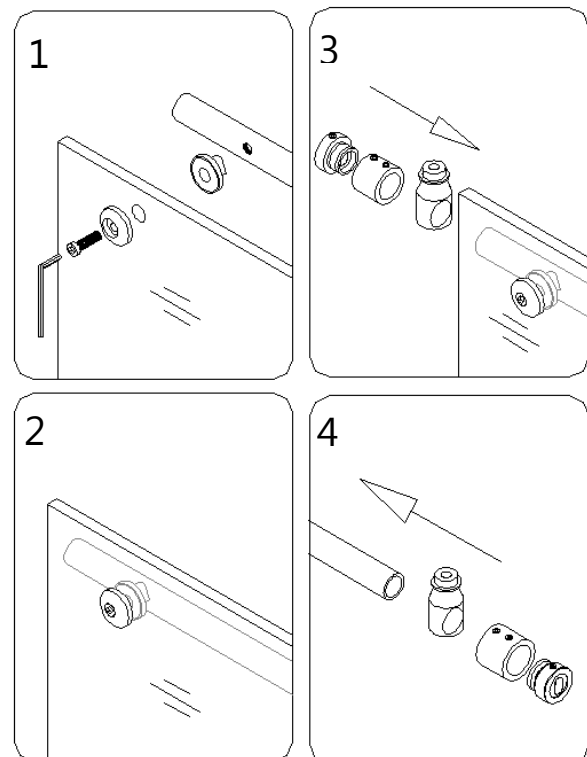
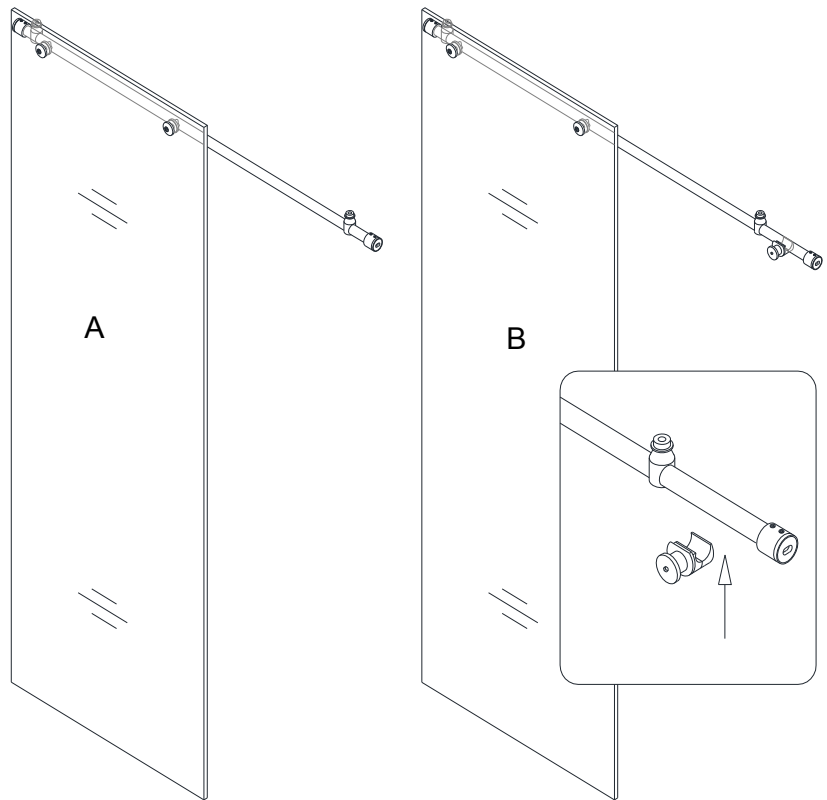

Fig. 12
Fig. 13
See Fig. 12 and Fig. 13 for details.
If the width of your door is **72"** and you are installing the door with the **Small Stationary glass (24)**, attach **Small Stationary glass bracket (23)** to the **Guide rail (03)** as shown in Fig. 13(B)